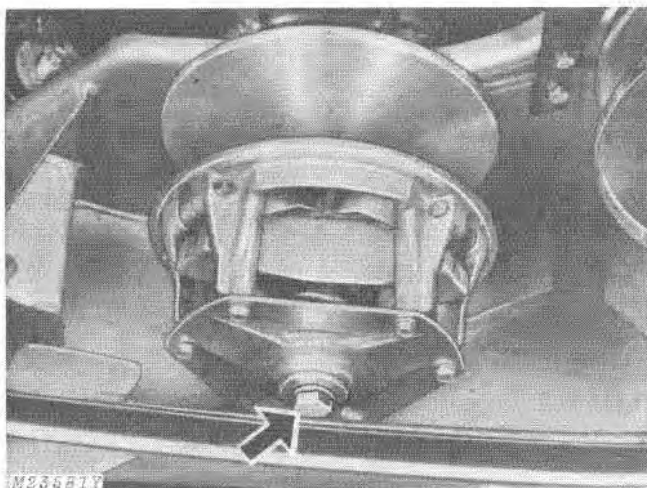

Fig. 1-Drive Sheave Retaining Screw
2. Remove retaining screw and washer, Fig. 1.